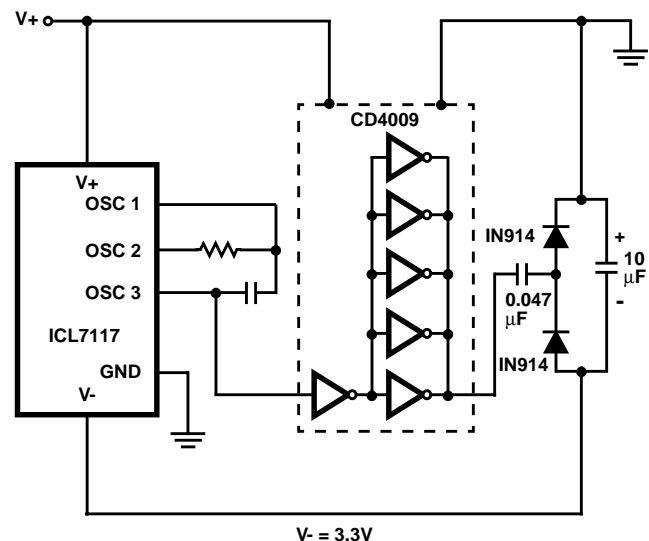

FIGURE 10. GENERATING NEGATIVE SUPPLY FROM +5V
3. The ICL7117 is designed to work from $\pm 5\text{V}$ supplies. However, if a negative supply is not available, it can be generated from the clock output with 2 diodes, 2 capacitors, and an inexpensive IC. Figure 10 shows this application. See ICL7660 data sheet for an alternative.